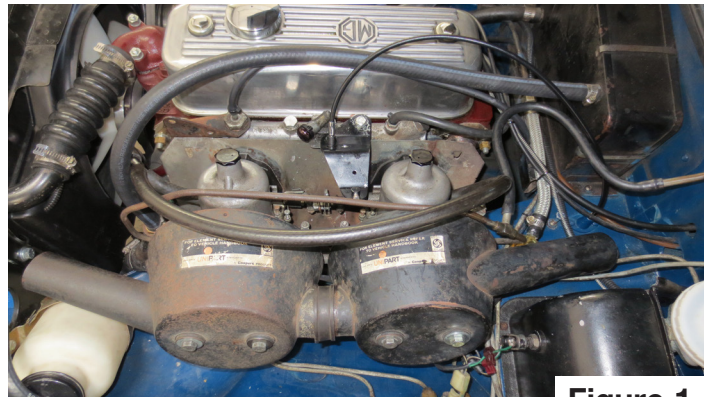

Figure 1
- 1) Remove the ground cable from the battery. Remove the air cleaners. Remove all cables, vacuum lines, hoses and brackets from the carburetors and then remove the carburetors from the intake manifold. Use a clamp or needle nose locking pliers to minimize fuel loss from the fuel line. See workshop manual for more detailed information on removing the carburetors. Figure 1.